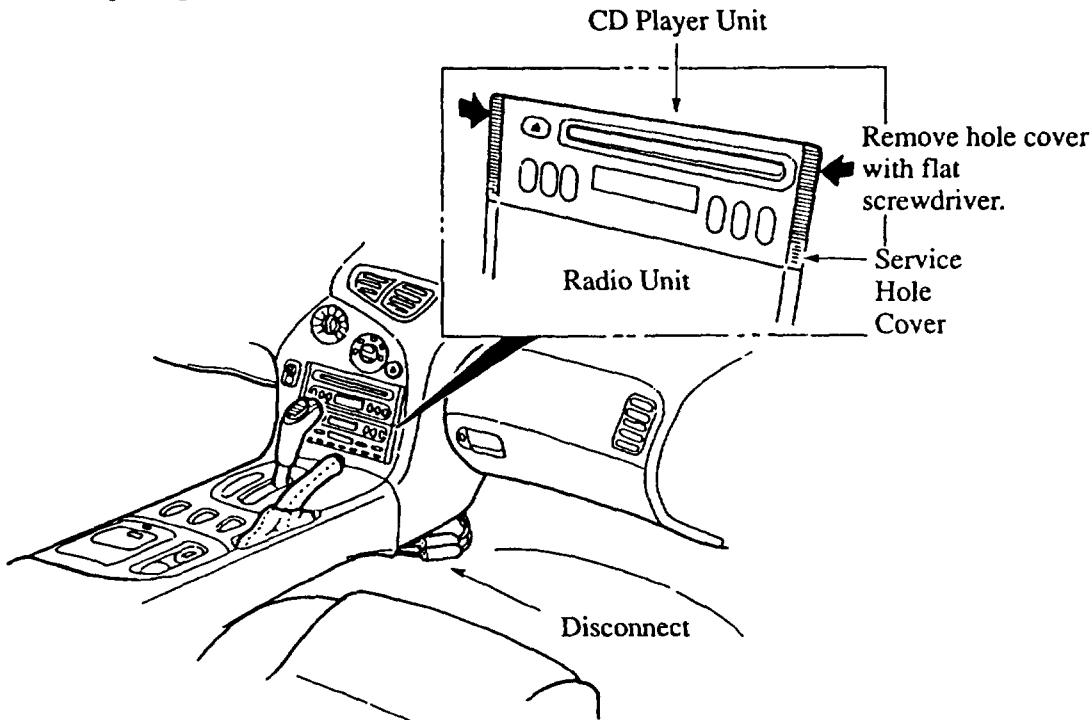

Figure 3: Hole Cover Removal
5. Remove the service hole covers from both the radio and CD player using a small, flat blade screwdriver wrapped with tape. **Figure 3.**